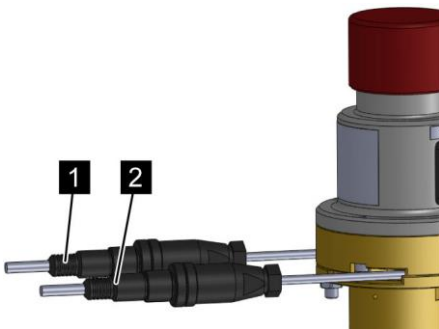

Fig. 91: Round plugs
8. ➤ Screw the connectors of the provided cables onto the round plugs (Fig. 91/1+2) of the connecting cable of the micro switches and connect them to the fire extinguishing detection system (only for electrical release devices with blocking device).